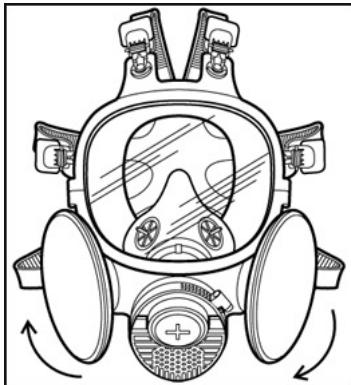

Fig. 1
2. Turn filter clockwise until it is firmly seated and cannot be further turned. (Fig. 1)